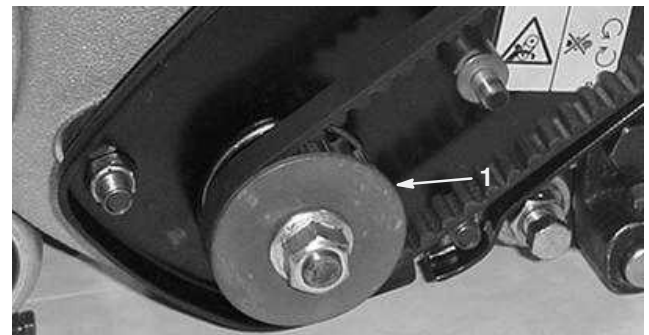

Figure 20
32. Reinstall the drive pulley w/key to the shaft with the nut previously removed (Fig. 20).